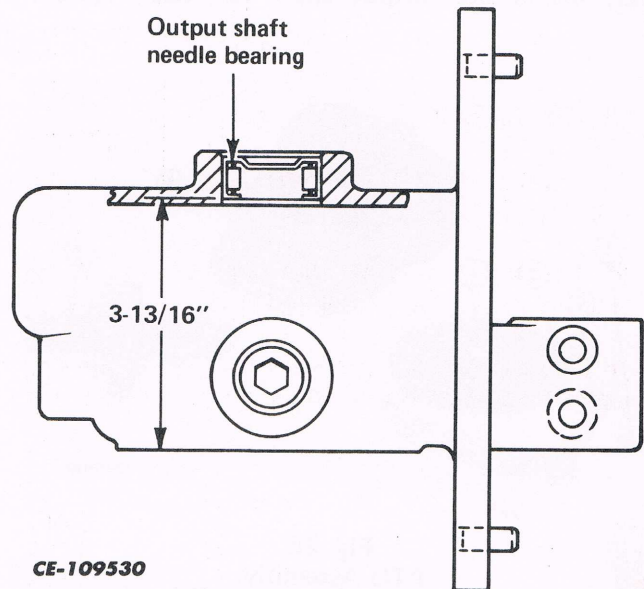

Fig. 24
5. Remove the fork assembly (1) and the side PTO gear (2) from the housing. See Fig. 24.